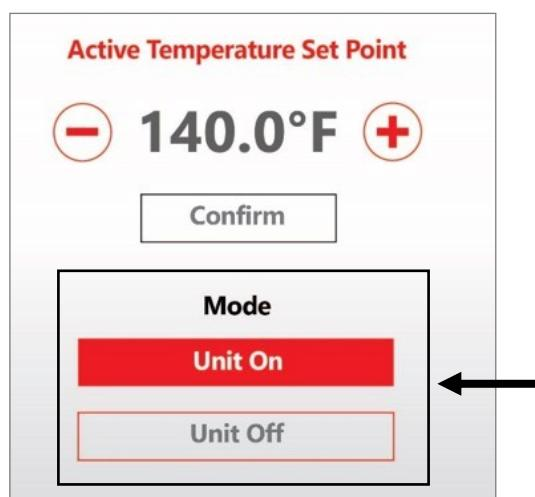

Fig 64. Turning the Tankless Water Heater On or Off on the “Active Temperature Set Point” Window
3. On the “Active Temperature Set Point” window (Fig 64), perform either of the following two options:
Option 1: Turn the Tankless Water Heater On or Off (Fig 64)